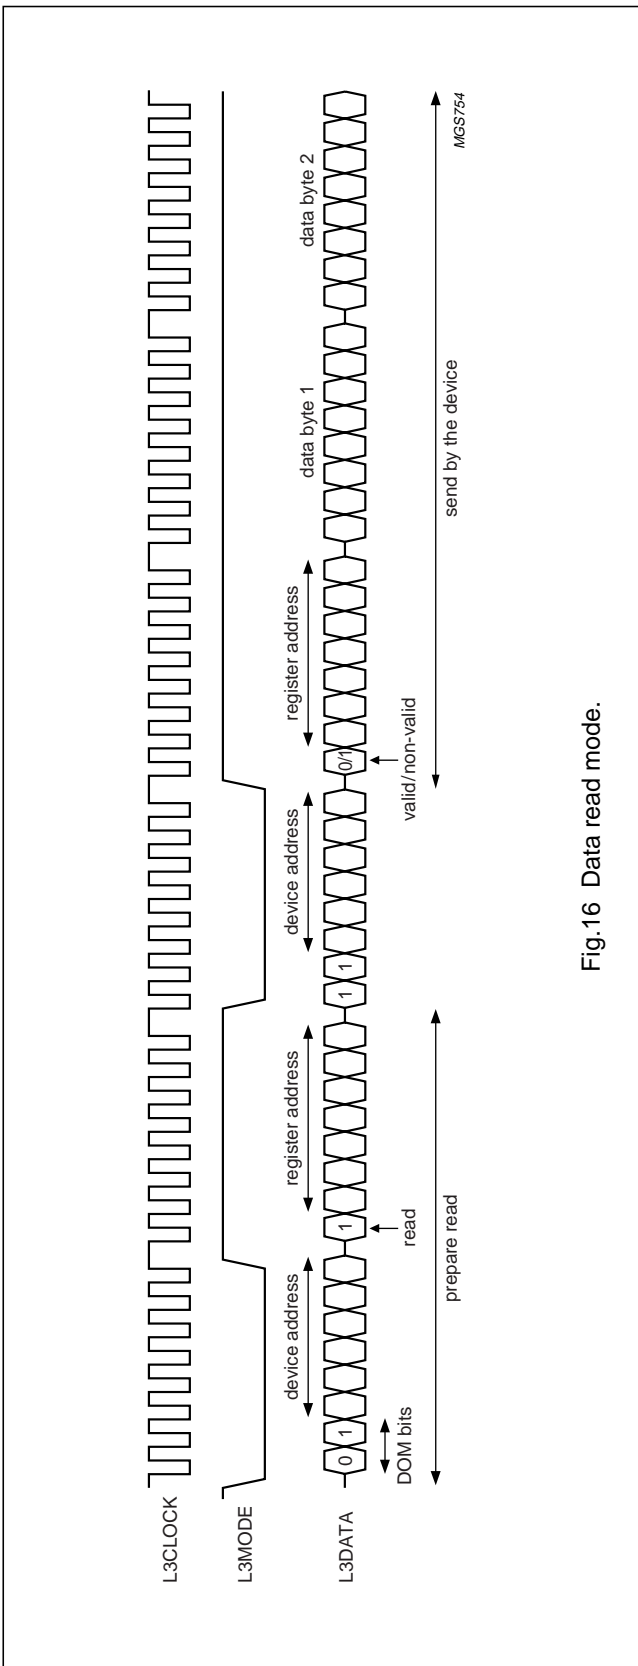

Fig.16 Data read mode.
- Addressing for prepare read: bit 0 is logic 1 indicating that data will be read from the register (see Fig.16)
For reading data from the device, first a prepare read must be done and then data read. The data read mode is explained in the signal diagram of Fig.16.